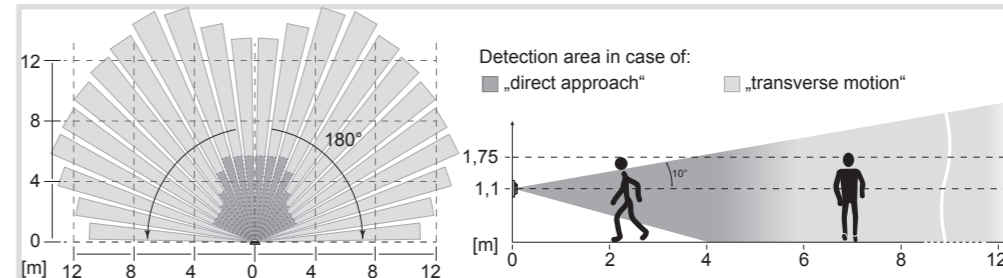

Fig 6: Detection area of the radio motion detector 1,1 m
- Avoid sources of interference in the detection area (Figure 6/7). Sources of interference, e.g. heating elements, ventilation systems, air conditioners and illuminants that are cooling down can cause undesired switching (Fig. 4).